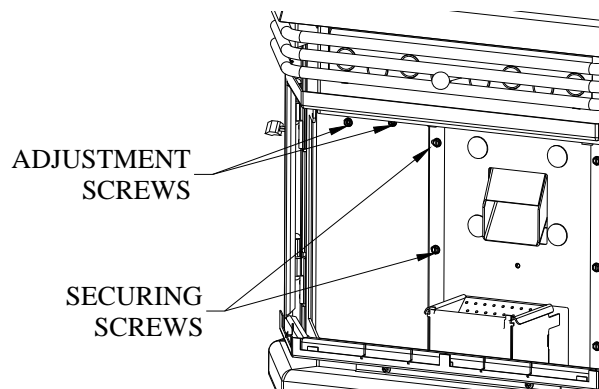
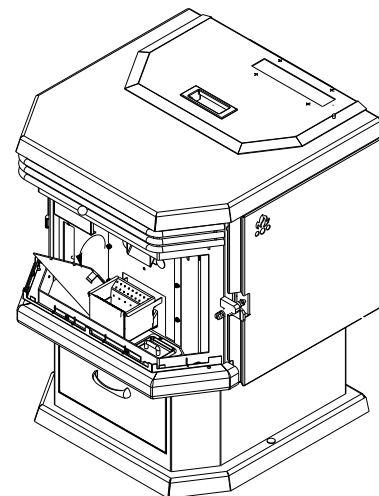

Figure 48
Figure 49
- c. **Chamber walls:** Periodically, you must vacuum the ashes that may have accumulated on the main walls of the combustion chamber. START BY REMOVING THE DECORATIVE MASONRY-LIKE PANELS, WHICH ARE SIMPLY HELD BY CLIPS. The use of a vacuum is necessary. There is also a cleaning outlet located behind the left side panel of the combustion chamber. Remove this panel using a screw driver. Loosen the adjustment screws then remove the securing screws(Figure 48). Slide the wall toward right and tilt it(Figure 49), then remove it from the combustion chamber. Scrape off ashes. You will notice a small rectangular cleaning outlet. Inspect behind this outlet. Insert the vacuum tip through the cleaning outlet and clean thoroughly. REPEAT THIS OPERATION AT LEAST ONCE PER TON OF PELLETS BURNED UNTIL YOU ARE FAMILIAR WITH HOW ASHES ACCUMULATE WITH YOUR OPERATING PRACTICES.